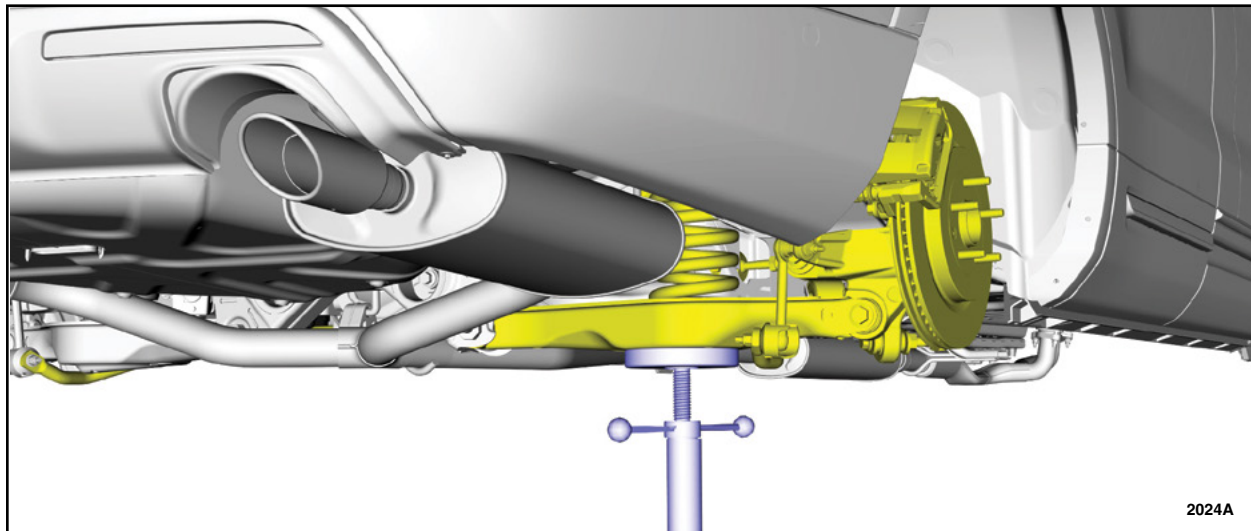

FIGURE 7
11. Remove the jack stand. See Figure 7.